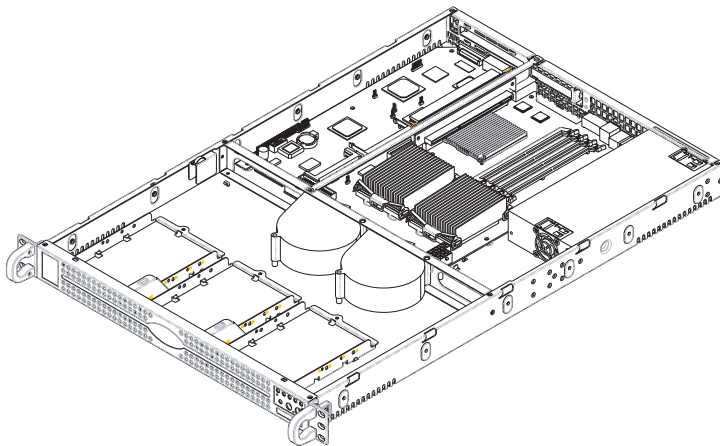

Figure 2-5. Accessing the Inside of the SuperServer 6013P-i
1. Accessing the inside of the 6013P-i (see Figure 2-5):